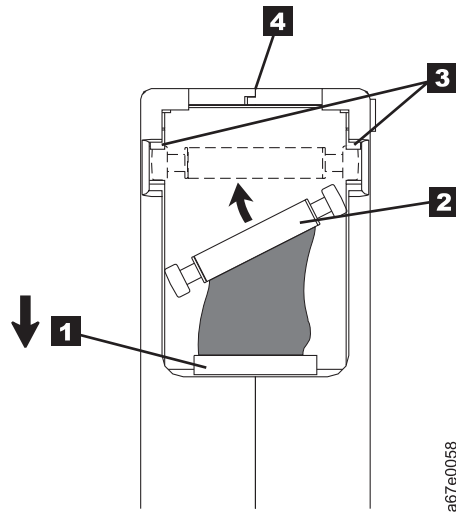

Figure 9-8. Placing the dislodged leader pin into the correct position
- Check that the leader pin is properly seated (see **2** in Figure 9-8 on page 9-18).
To reposition the leader pin, refer to Figure 9-8 and complete the steps.